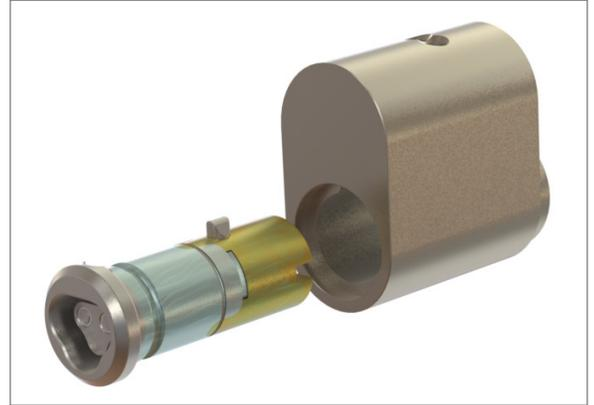

Figure 7: Reinstall Core Assembly
10. Use a CyberKey® to reinstall the core assembly into the shell. See Figure 7.